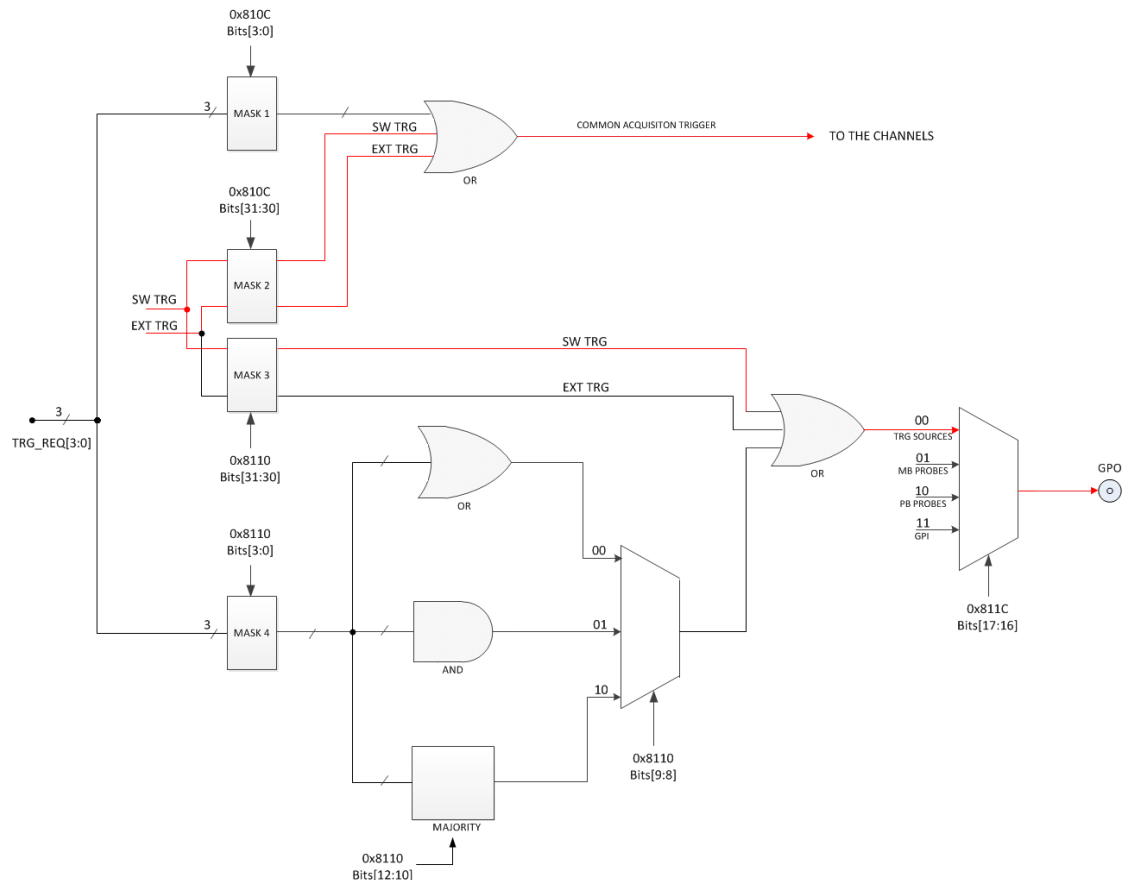

Fig. 3.10: Trigger configuration on GPO front panel output connector
As described in § 3.4, the OR of all the enabled trigger sources, synchronized with the internal clock, becomes the common trigger of the board that is fed in parallel to all channels, consequently provoking the capture of an event. By default, only the Software Trigger and the External Trigger participate in the common acquisition trigger (refer to the red path on top of **Fig. 3.10**).
A Trigger Out signal is also generated on the relevant front panel GPO connector (NIM or TTL), and allows to extend the trigger signal to other boards. Thanks to its configurability (see **Fig. 3.10**), GPO can propagate out:
- the OR of all the enabled trigger sources (only the Software Trigger is provided by default, as in the red path of **Fig. 3.10**);